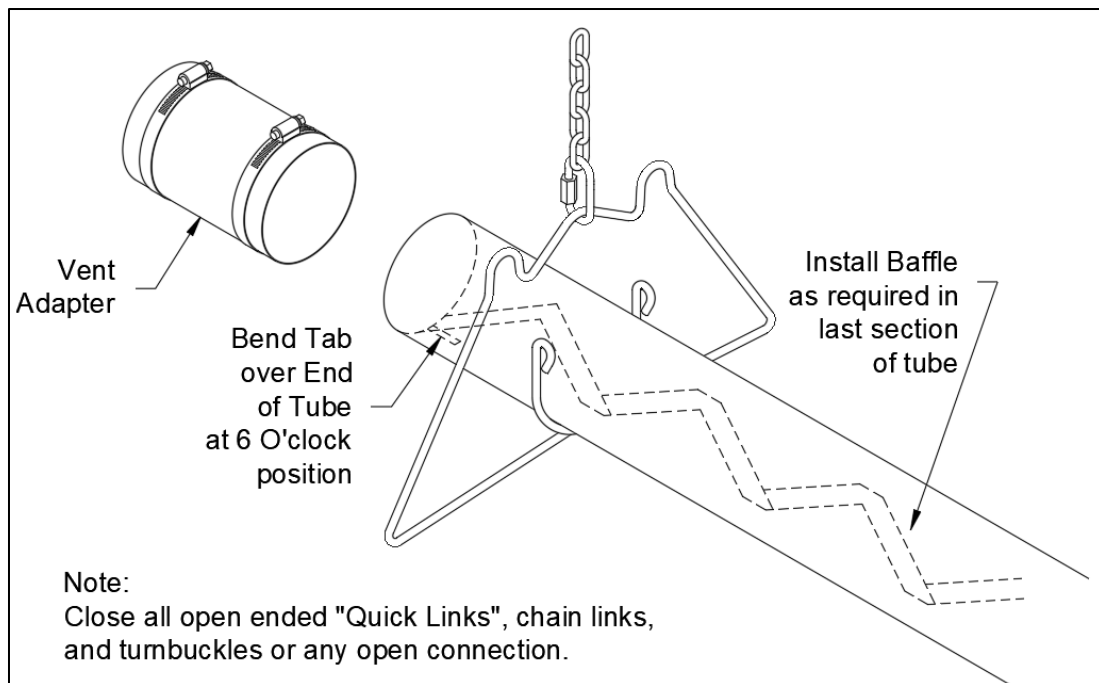

Figure 14: Baffle Installation
- If required for your heater model (refer to Table 1), install the baffle at the end of the heat exchanger. The small tab on the baffle is folded over the end of the tube and clamped in place by the vent connector and vent system, refer to Figure 14.